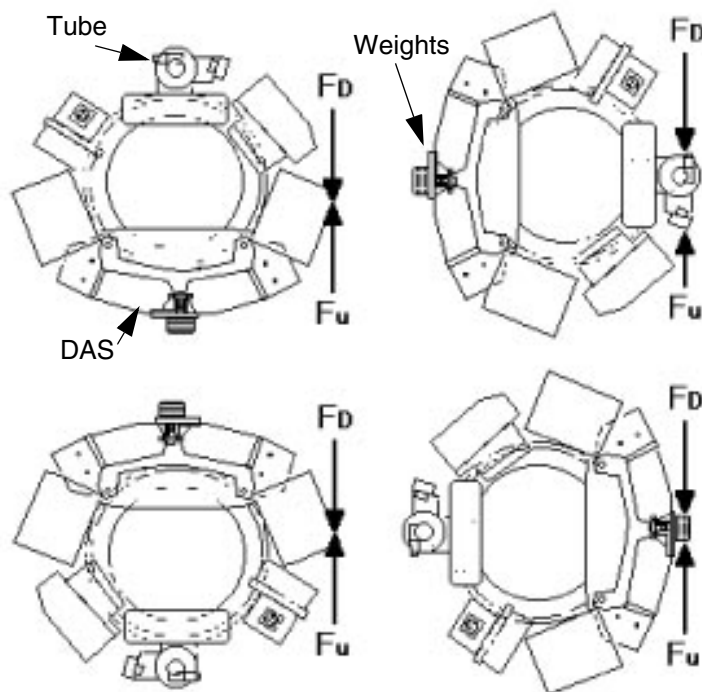

Figure 11-5 Gantry Static Balance Force Measurements
- 4.) Take 8 force readings at the locations. See Figure 11-5.